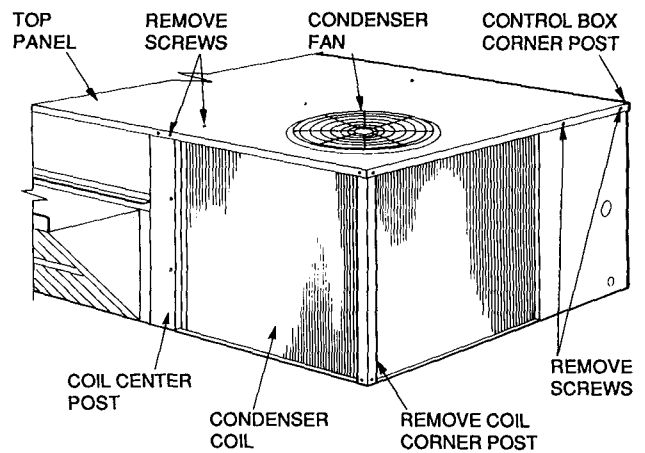
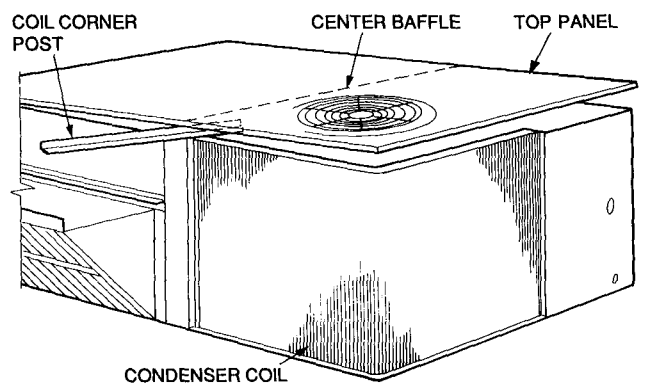

Fig. 25 — Cleaning Condenser Coil
Fig. 26 — Propping Up Top Panel
3. Remove condenser coil corner post. See Fig. 25. To hold top panel open, place coil corner post between top panel and center post. See Fig. 26.